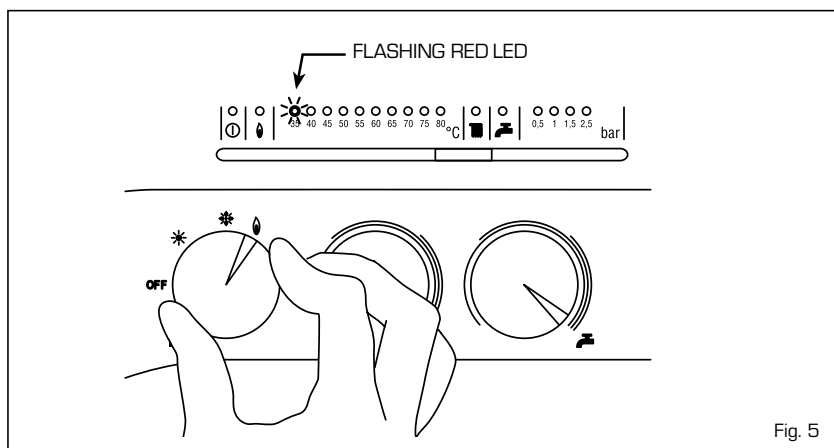

Fig. 5
– **Safety stat trip** (fig. 5)